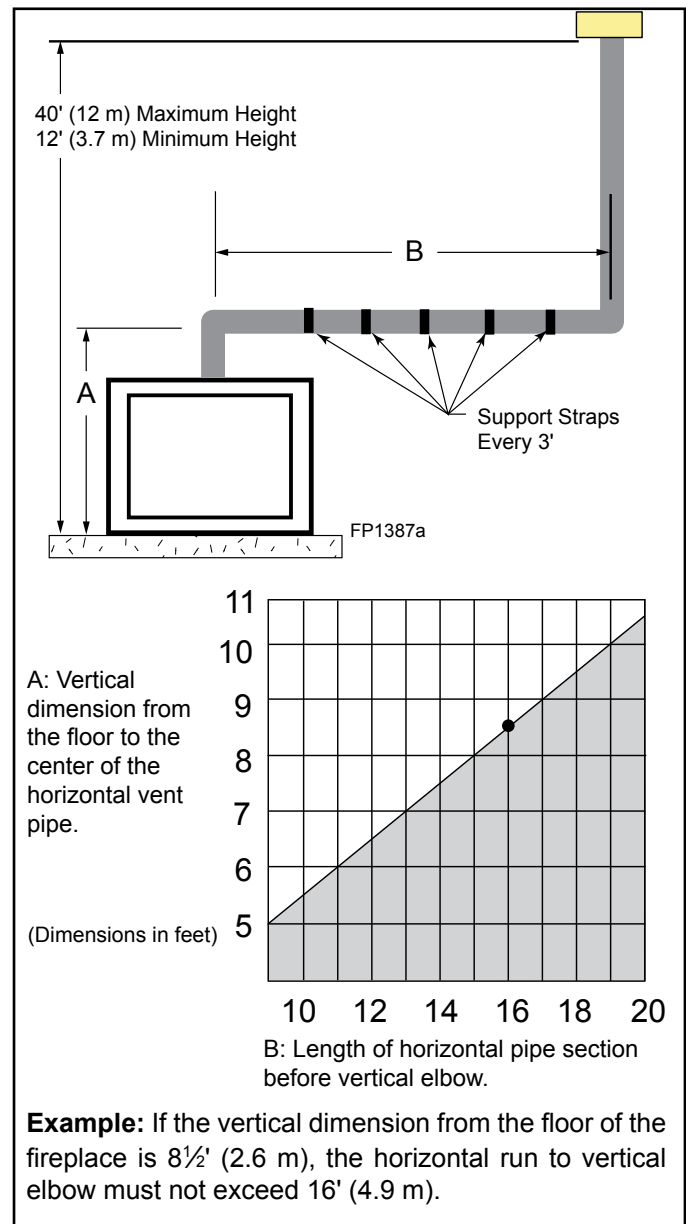

Figure 5.12 Allowable Horizontal Runs with Vertical Rises and Terminations
This gas fireplace has been approved for vertical installations up to 40' (12 m) in height. Up to a 20' (6 m) horizontal vent run can be installed within the vent system using a maximum of two 90° elbows. See *Figure 5.12*.
NOTE: If an offset is needed to avoid obstructions, you must support the vent pipe every three (3) feet. Use wall straps for this purpose. Page 22, Figure 5.12. Whenever possible, use 45° elbows instead of 90° elbows. The 45° elbow offers less restriction to the flow of the flue gases and intake air.